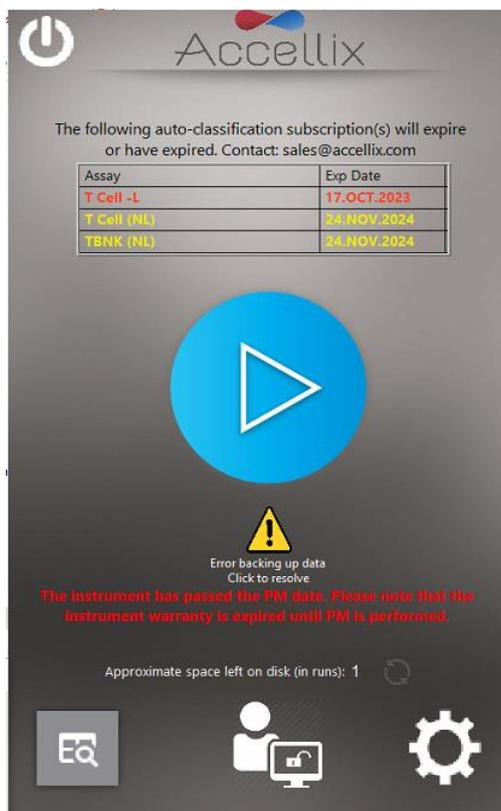

Figure 34: Start screen with login enabled, showing subscription status, recopy button and PM status
**Note:** If auto-classification subscriptions are enabled and an assay's subscription is due to expire within the next 6 weeks, the assay's name and expiration date will appear in **yellow** in a table above the blue Start button. If an assay's subscription has already expired, the assay name and expiration will appear in **red** (Figure 34).
**Note:** If the Preventative Maintenance (PM) date has passed for an instrument, a warning will appear below the blue **Start** button. Please contact Accellix support to schedule the maintenance as soon as possible.